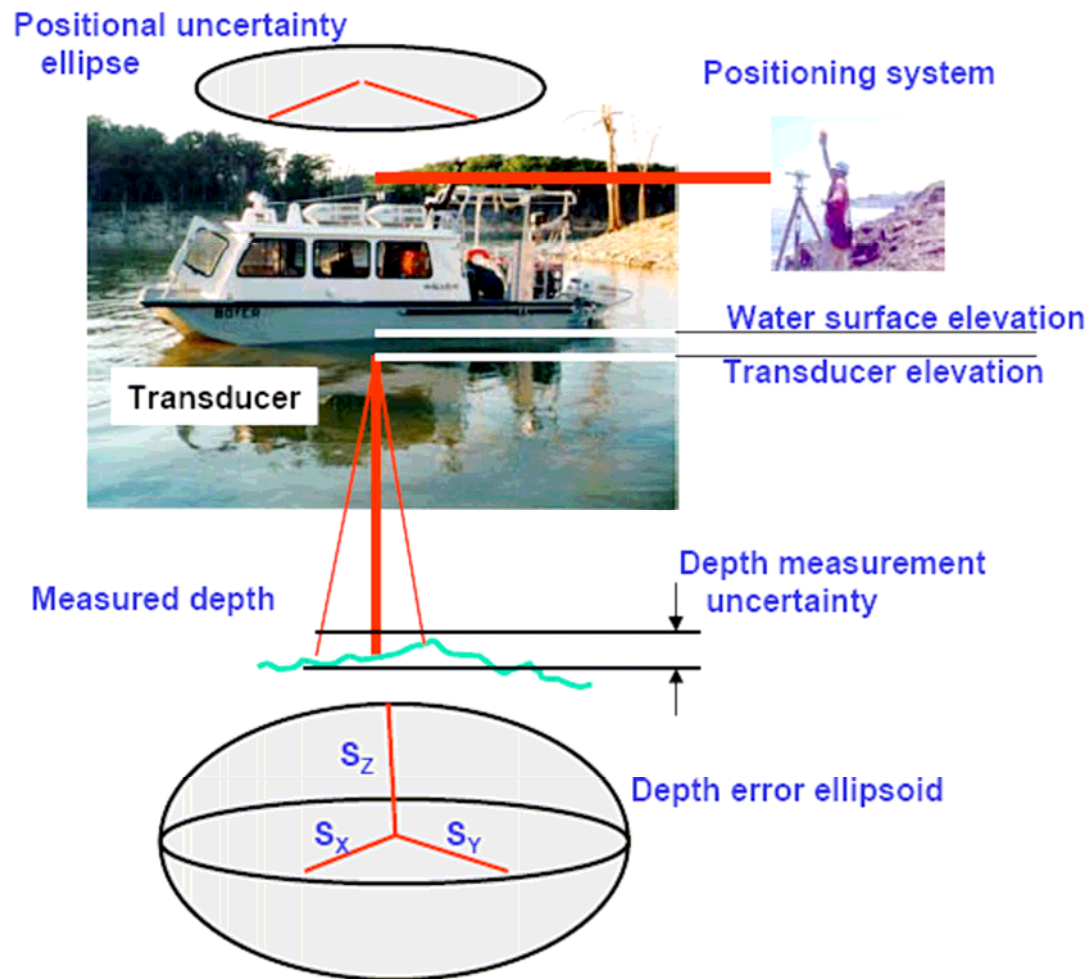

Figure 4-1. Three-dimensional uncertainty of a measured depth
c. Combined horizontal and vertical accuracy. The overall accuracy of an observed bottom depth elevation is dependent on many random and systematic errors that are present in the measurement processes used to measure that elevation. This makes any quantitative comparisons of the observed elevations difficult, particularly in areas of irregular terrain. Thus, any efforts to compare different surveys made over the same presumed point must factor in the inaccuracies in all three dimensions and their resultant impact on an existing terrain gradient. An overall assessment of the accuracy of an individual depth or bottom elevation must also fully consider all the error components contained in the observations that were used to determine the point. The resultant accuracy of a single depth point is represented by a 3-D error ellipsoid, as shown in Figure 4-1. The dimensions of this ellipsoid are indicated by the standard errors in all three dimensions— s_x , s_y , and s_z . The size and orientation of this 3-D ellipsoid is determined from all the various error components (“uncertainties”) that made up the position and depth measurements. In general, the dimensions of the ellipsoid are larger in the X and Y planes, due to positional accuracy being less accurate than the depth measurement (e.g., 2 meter DGPS accuracy and ± 1 foot depth accuracy).